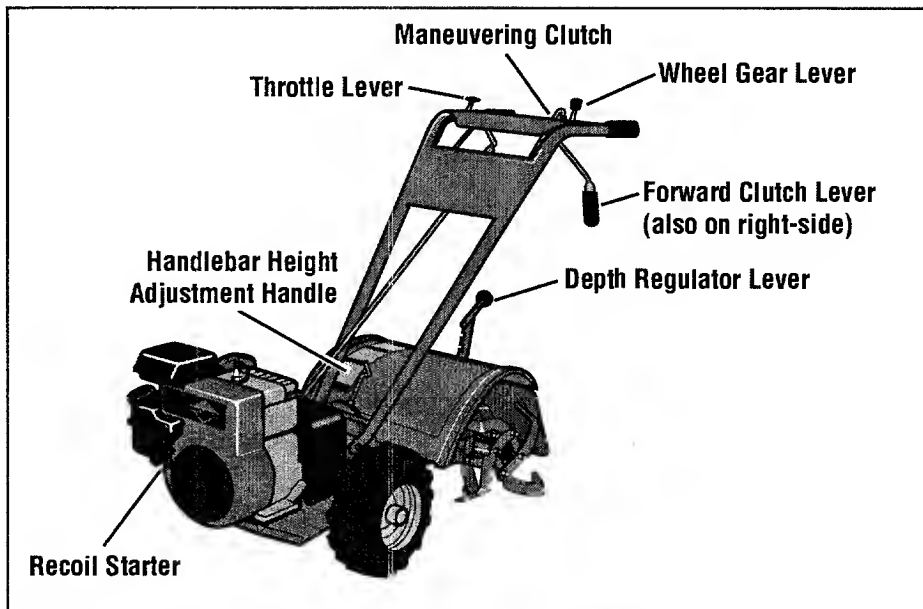

Figure 4-1: Location of main tiller controls (Pony model shown).
2. Put the Wheel Gear Lever (Figure 4-1) in the ENGAGE position.